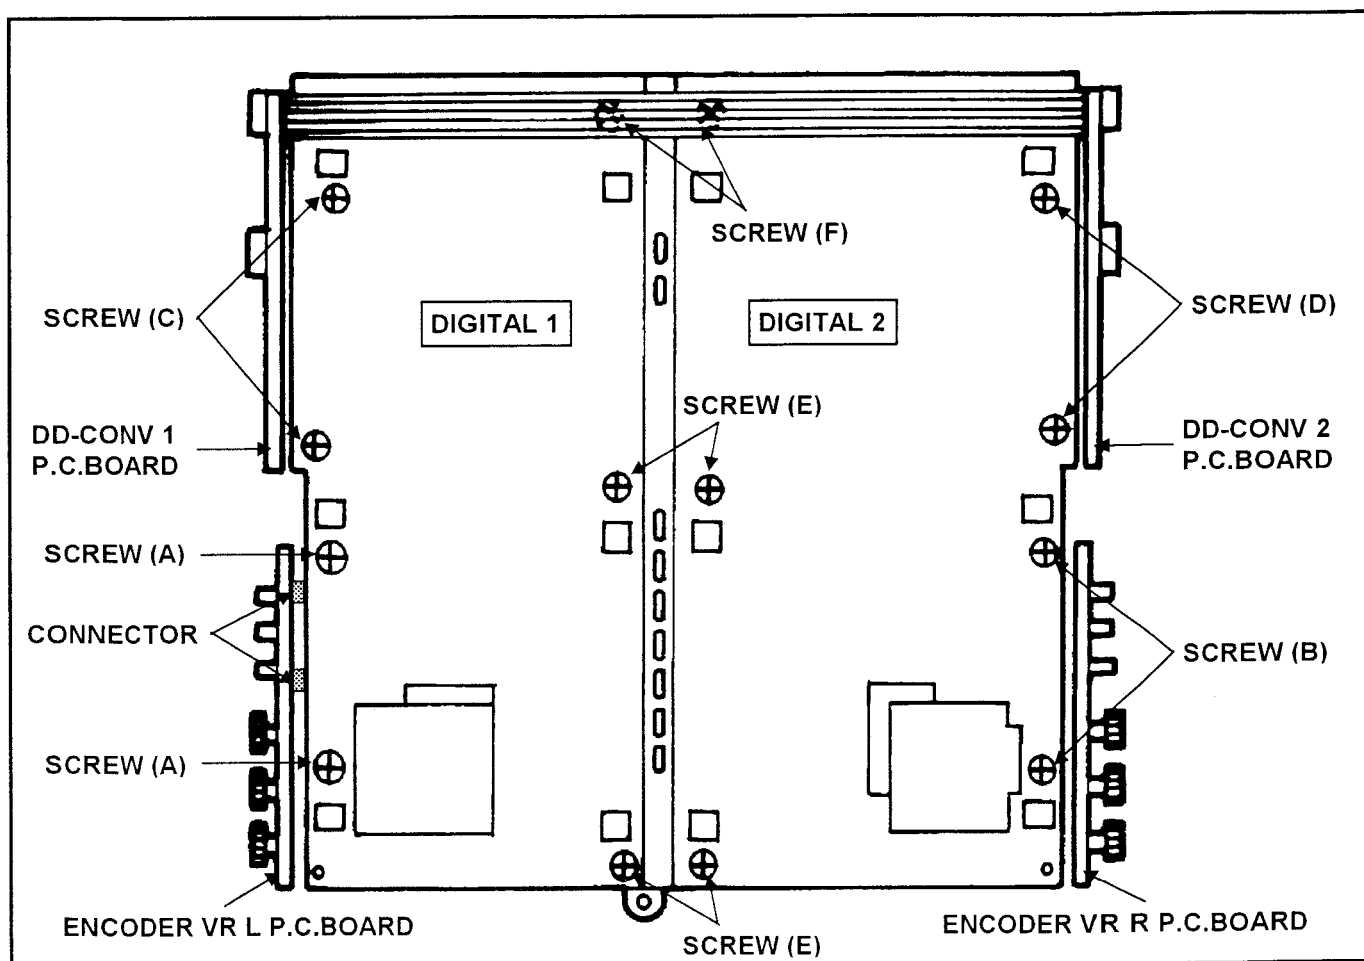

Figure 18
11. Unscrew the 2 screws (A) and disconnect the 2 connectors, then remove the Encoder VR L P.C.Board from Analog 1 P.C.Board as shown in Figure 18.
12. Unscrew the 2 screws (B) and remove the Encoder VR R P.C.Board from Analog 2 P.C.Board as shown in Figure 18.
14. Unscrew the 2 screws (C) and disconnect the connector P1004 on the DD-Conv 1 P.C.Board as shown in Figure 18, then remove the DD-Conv 1 P.C.Board from Analog 1 P.C.Board.
16. Unscrew the 2 screws (D) and disconnect the connector P1206 on the DD-Conv 2 P.C.Board as shown in Figure 18, then remove the DD-Conv 2 P.C.Board from Analog 2 P.C.Board.
17. Unscrew the 4 screws (E) and 2 screws (F) as shown in Figure 18, then remove the Analog 1 and 2 P.C.Board.